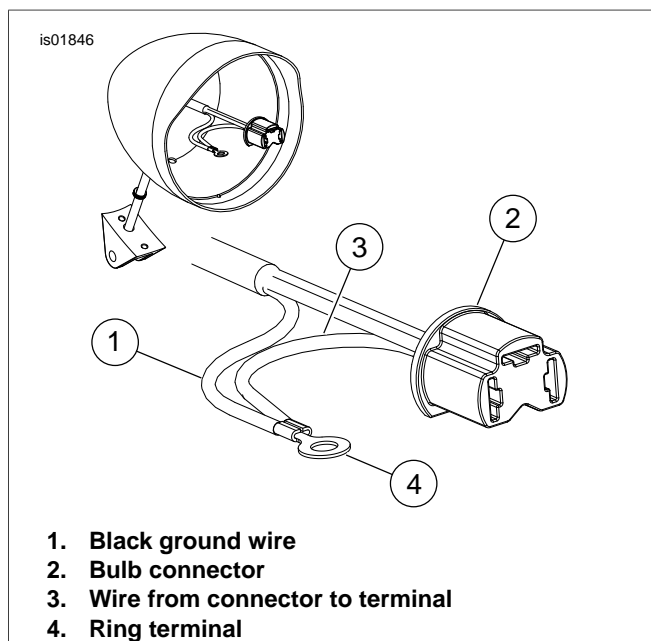

Figure 9. Clip Black Ground Wire
1. See Figure 9. Clip black ground wire (1) inside new billet headlamp close to the bulb connector (2). Refer to REPLACE LAMP ASSEMBLY AND BULB for procedures to disassemble billet headlamp.